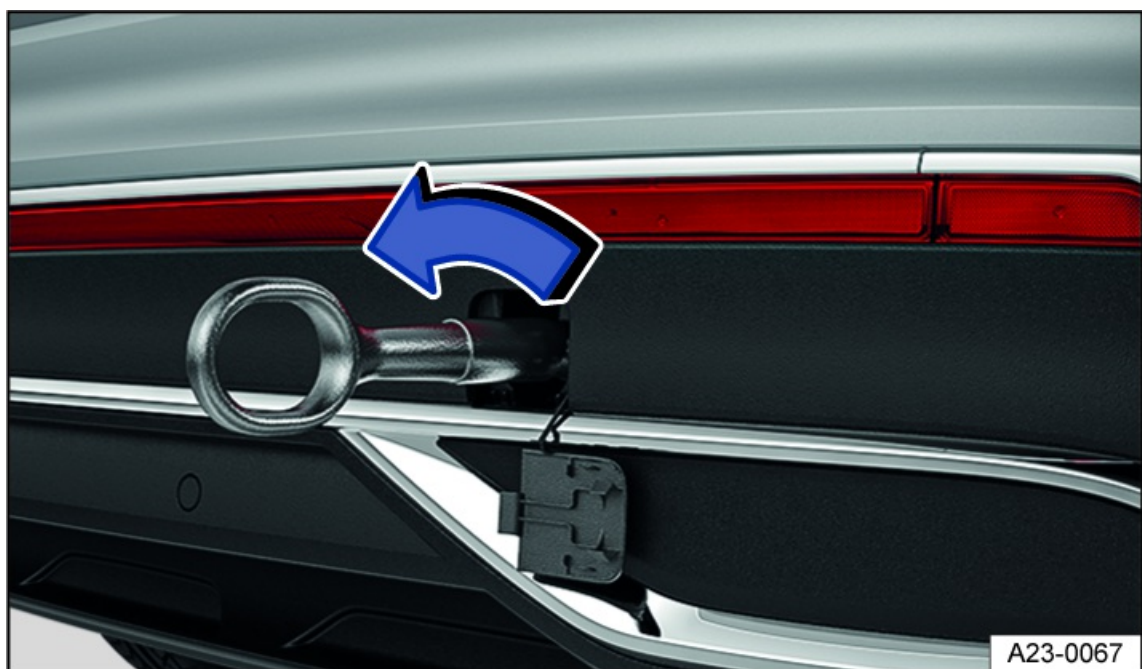

Fig. 202 In the right rear bumper: Remove the cover, variant 1.
2. Press on the marked area of the cover in the direction of the arrow to release the catch on the cover *fig. 202*.